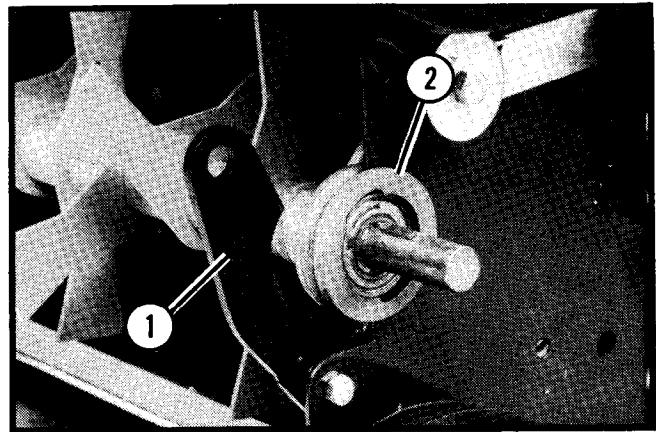

Figure 2. Reel Installation
2. Loosen the reel clamps and pivot them down and out of the way. Set the reel into place against the chassis with the pulley end on the engine side. Bearing guides on the reel will provide correct alignment (See Figure 2).